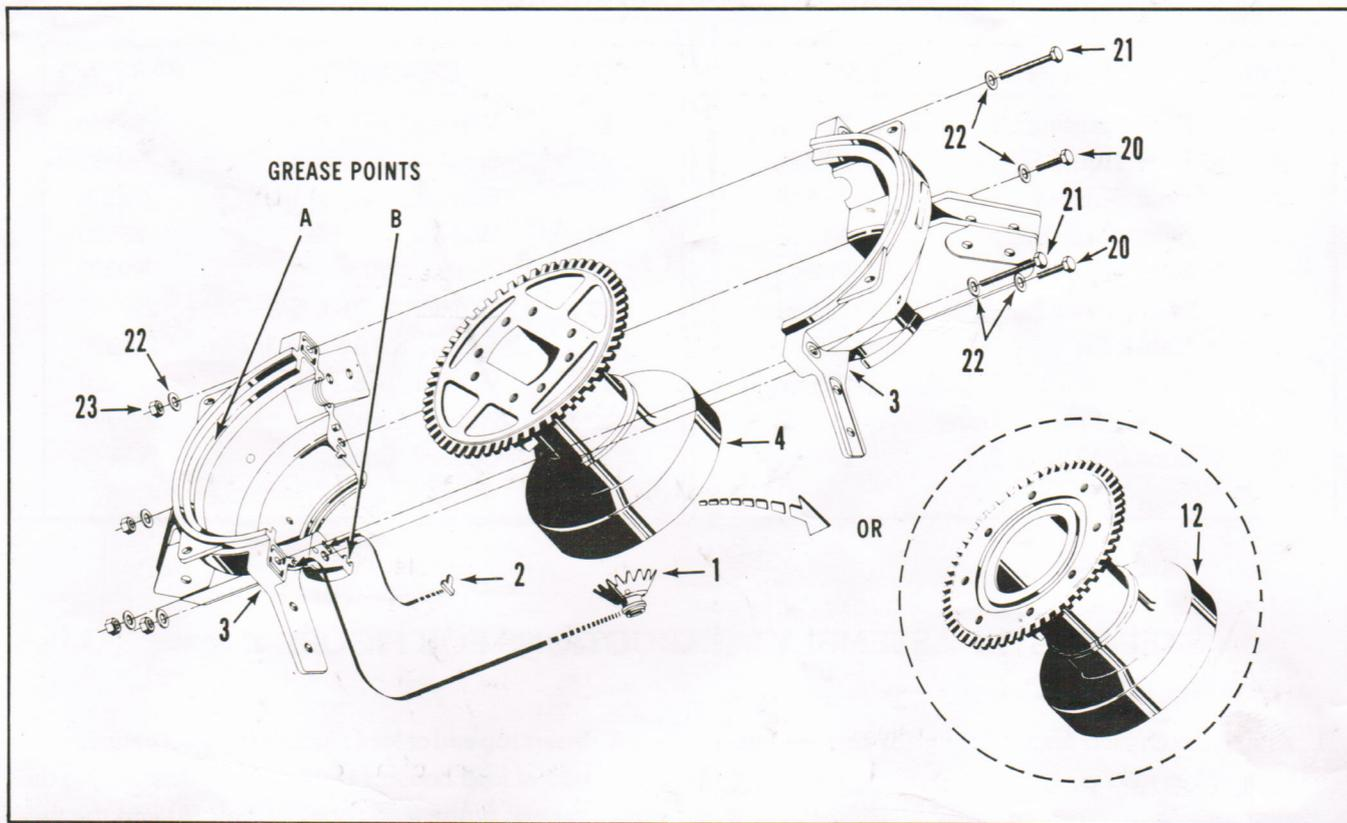

Figure 2. Feed Housing Assembly For Single or Dual Polarization Feed
## PARTS LIST FOR FIGURES 2 AND 3
### STEP-BY-STEP ASSEMBLY INSTRUCTIONS FOR FIGURES 2 AND 3.
4. Insert top end of feed shaft support (6) between the pair of feed housing blades, carefully inserting the flat end of the feed rotation shaft (8) into the rectangular opening of feed shaft gear (1 in figure 2). Rotating the feed slightly will help in aligning the two parts.
5. Loosely bolt this pair of blades to feed shaft support (6) using hardware items (24), (25), and (26).
6. Loosely bolt the bottom end of feed shaft support (6) to the panel flange using new longer bolts (28) and original washers (29), and nuts (30), two places. Also install shaft clamp (10) as shown.
7. Tighten all hardware except shaft clamp (10). Then insert a flat-blade screwdriver in slot at bottom end of shaft (8) and turn in both directions until the feed contacts the rotation stop, checking to make sure that the feed rotates freely.